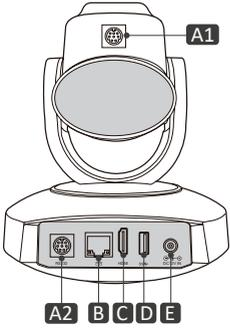

Figure 1.1
- a. Network Cable Connection Port: Connect this product and your computer through network cable, the device LAN interface refer to No B in Figure 1.1.
- a. HDMI Video Cable Connection: HDMI Model refer to No.C in Figure 1.1.
- a. USB3.0 video cable connection: HDMI Model refer to No.D in Figure 1.1.